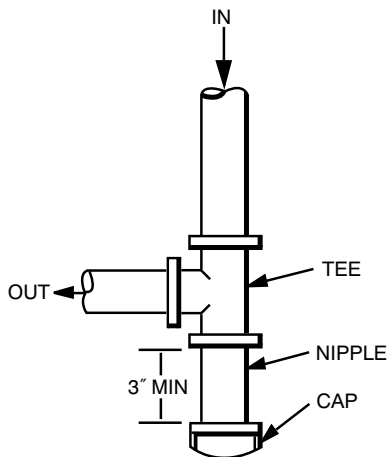

Fig. 7 – Sediment Trap
4. Install sediment trap in riser leading to heating section (See Fig. 7). This drip leg functions as a trap for dirt and condensate.